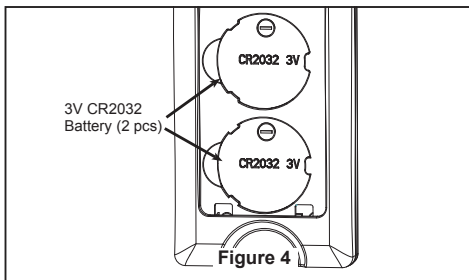

Figure 4
4. To make fan operational, install two 3V batteries (included) in hand-held remote transmitter, with fan power off. Then, follow the remote code setting process. If not used for long periods of time, remove battery to prevent damage to transmitter. Store the remote away from excessive heat or humidity. (Figure 4)